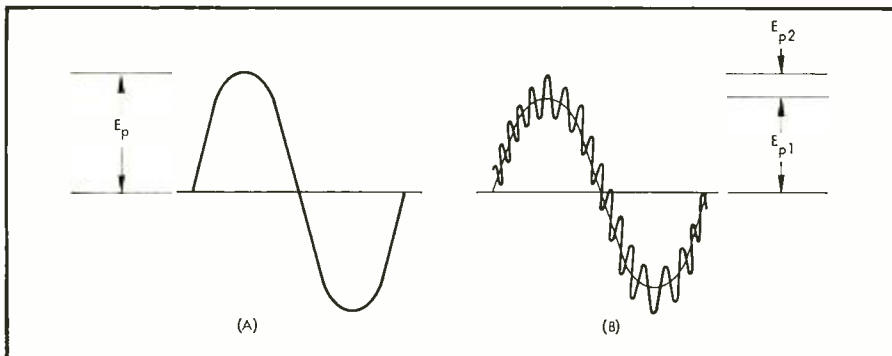

Fig. 1. Sinusoidal signal, (A), and sinusoidal signals mixed at a ratio of 4:1, (B).
The ratio of the amplitudes of the lower to the upper frequency is 4:1, or a difference of 12 db. The output from the generator appears somewhat as shown in (B) of Fig. 1.